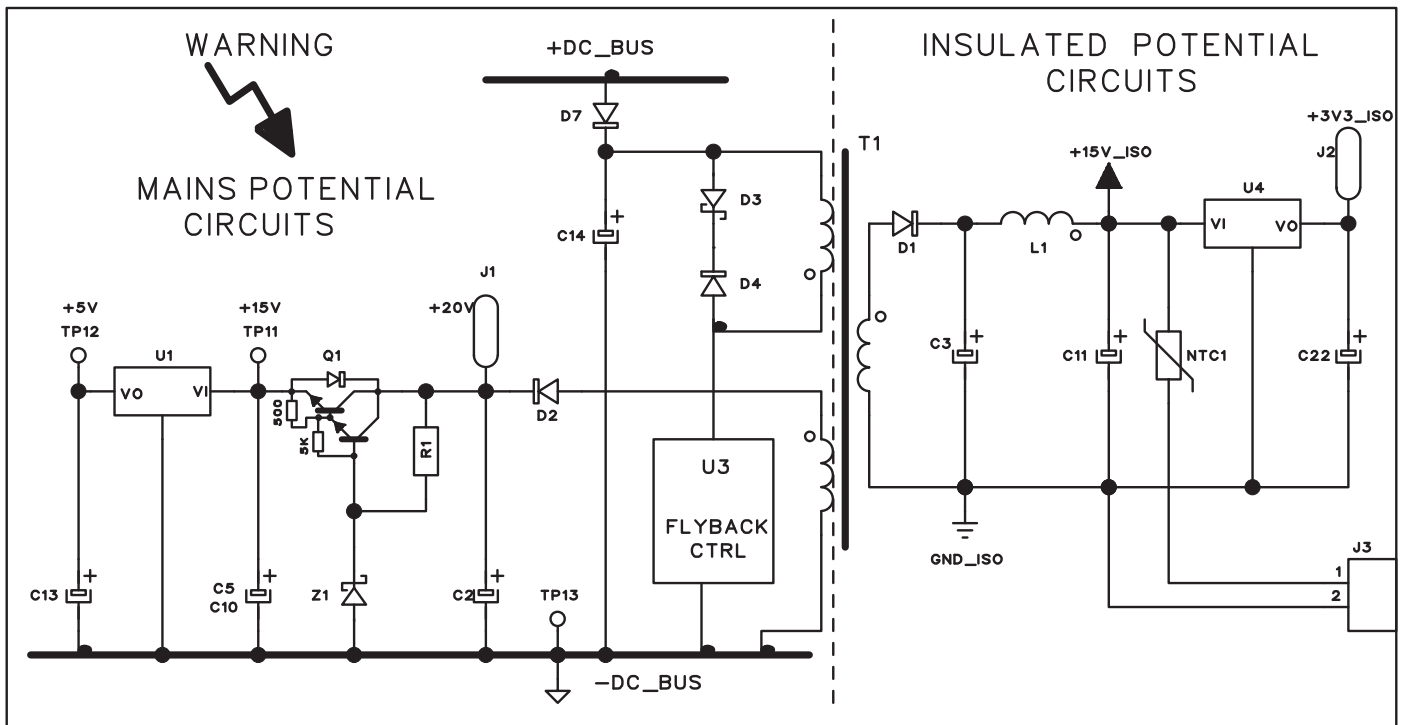

Fig. 2.3.2
These voltages are measurable on the connectors J2, J3 and on the test points J1, TP11, TP12, TP13 on power board (34), as indicated in Fig. 2.3.2.